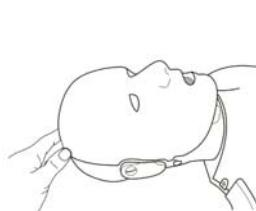

Figure 4
- Tilt back the head of the manikin (Figure 4).